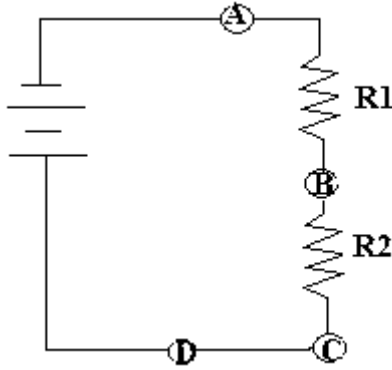

Figure 4-12 Circuit for exercise 3 and 4.
- Consider the circuit shown in the above Figure 4-12. Identify the points you should use to measure the voltage of
- Referring to the Figure 4-12, if you were to measure current where would you insert your meter?